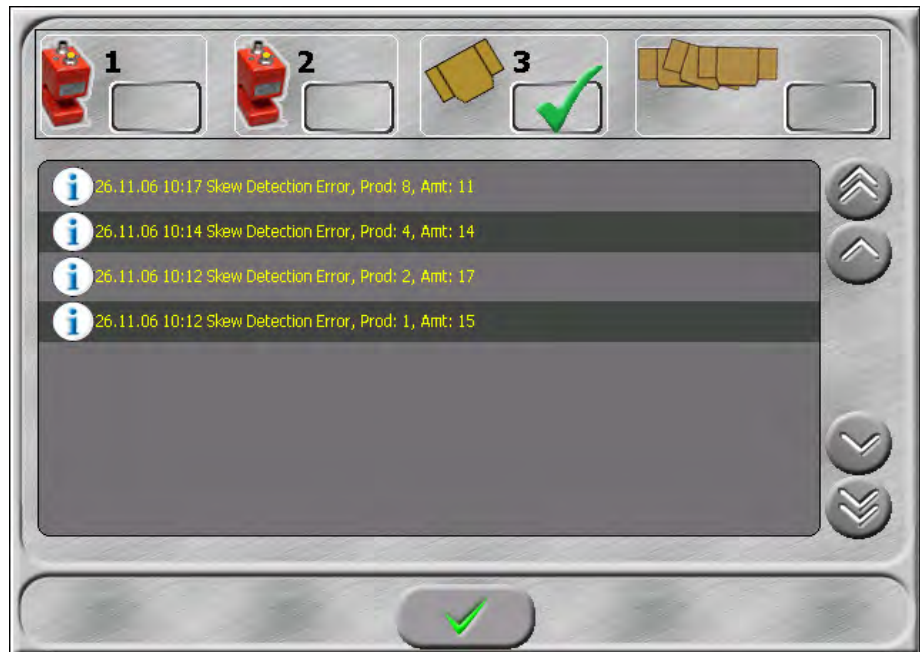

Figure 3 - Skew Diagnostic Screen
3. The green areas illustrate the tolerance zones at the front and the back of the product. For example, in the picture above, the tolerance is currently set at +/- 5 mm. The tolerance settings can be set in the Skew Detection setup menu (see Figure 3).
If the user presses the Diagnostic button, the Skew Diagnostic Screen (Figure 3) displays:
Figure 3 shows that the system detected four products with problems (i.e., product 1, 2, 4, and 8 having their associated difference from their ideal length shown to the left of the word "Amt" ("Prod" stands for "Product" and "Amt" stands for "Amount".)